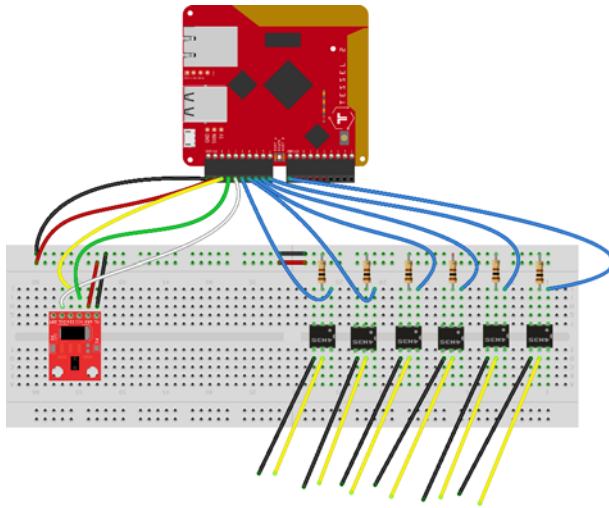

Figure 9.23 Wiring diagram showing the combination of the APDS-9960 breakout board and the button/photocoupler circuits.
Combine the two circuits—remote control and gesture—as shown in figure 9.23. The output sides of the photocouplers should connect to the remote control's button
**USING FULL-SIZE BREADBOARDS** If you use a full-size breadboard, as shown in figure 9.23, make sure you connect the power rails as shown midway along the board's length: the power rail connections have a break in the middle.
To make room for the APDS-9960 connections, the connections for the photocouplers have to jog down a couple of pins (see figure 9.23)—those updated pin numbers are accounted for in the final version of *index.js*, as shown in the next listing.